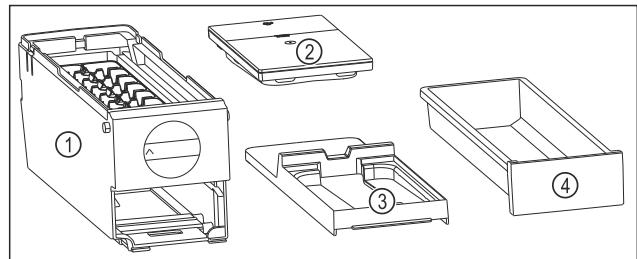

Fig. 79 Components of the EasyTwist-Ice
- Only dismantle the EasyTwist-Ice into the components shown. (see Fig. 79)
- Clean the EasyTwist-Ice body Fig. 79 (1) as a whole.
- EasyTwist-Ice is dismantled into four parts. (see Fig. 79)